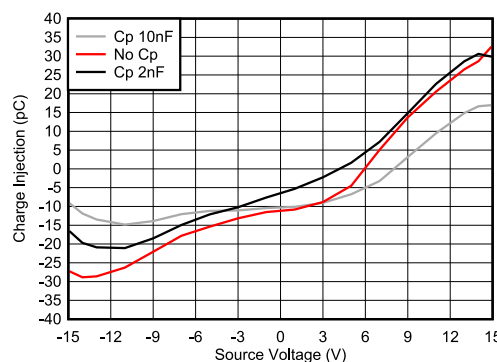

Figure 7-3. Charge Injection Compensation
The TMUX6219 contains specialized architecture to reduce charge injection on the source (Sx). To further reduce charge injection in a sensitive application, a compensation capacitor (Cp) can be added on the drain (D). This will ensure that excess charge from the switch transition will be pushed into the compensation capacitor on the drain (D) instead of the source (Sx). As a general rule, Cp should be 20× larger than the equivalent load capacitance on the source (Sx). Figure 7-3 shows charge injection variation with source voltage with different compensation capacitors on the Drain side.